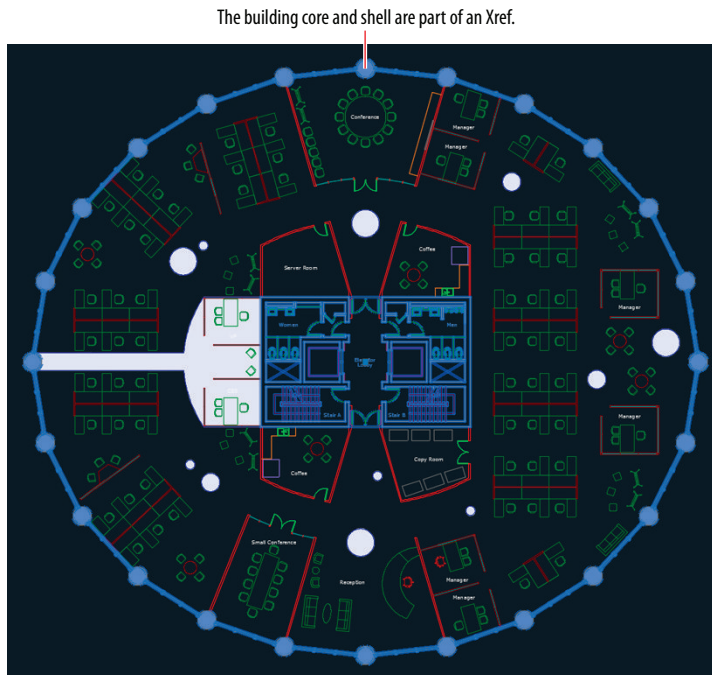

FIGURE 9.29 The core and shell drawing is externally referenced into the tenant drawing.
5. The core and shell appear faded with respect to the tenant drawing. Select the core or shell to select the single Xref object (see Figure 9.29).